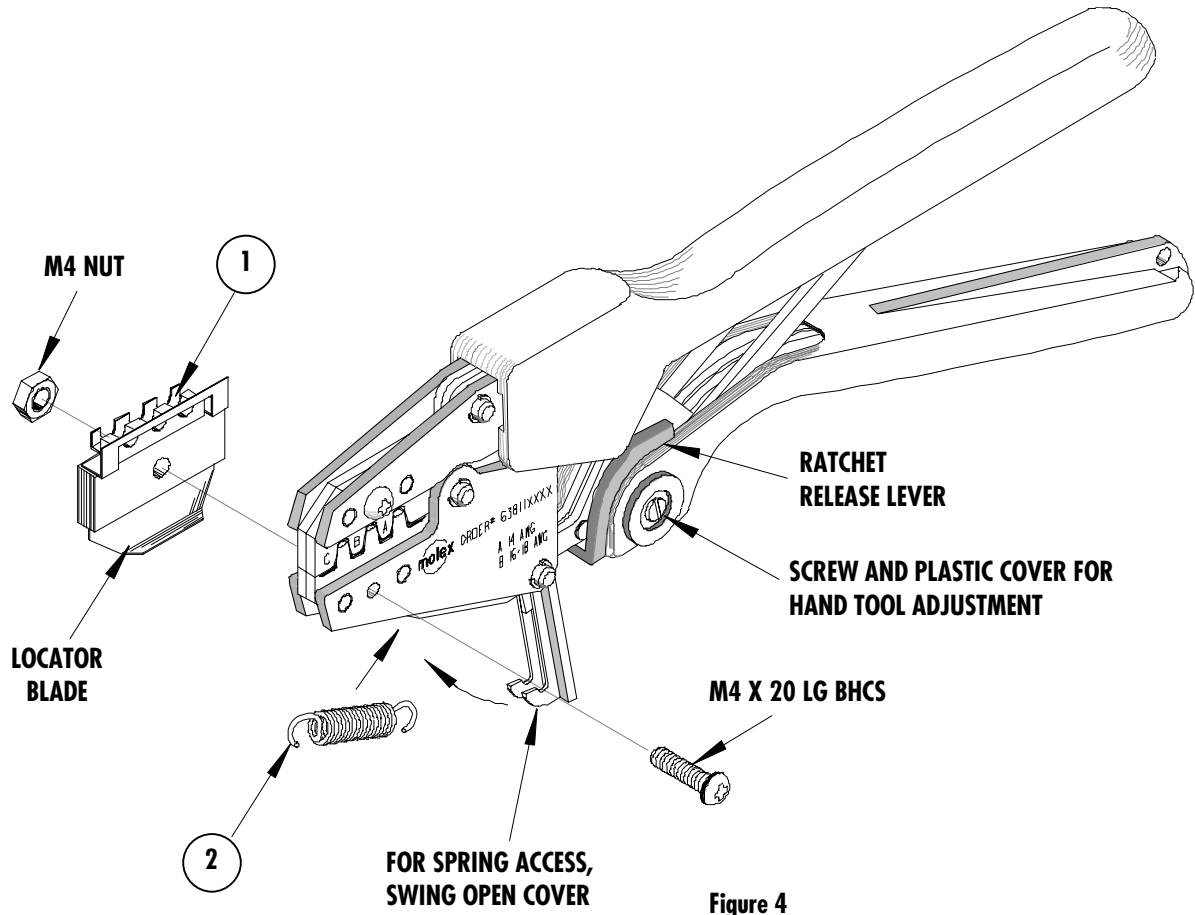

Figure 4
- Close the tool until the ratchet releases, (See Figure 4).
Should this tool ever become stuck or jammed in a partially closed position, **Do Not force the handles open or closed.** The tool will open easily by lifting the ratchet release lever (See Figure 4).
How To Adjust Tool Crimp Force (See Figure 4)